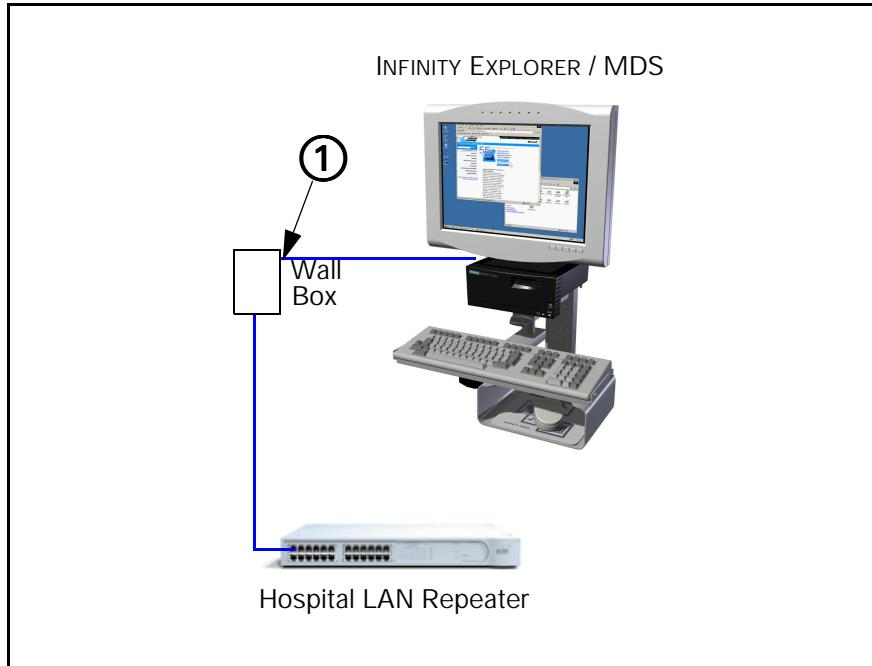

Figure 12-6 Hospital LAN Connection
Plug one end of Ethernet Patch Cable into Hospital LAN RJ45 connector (⑯ in Figure 12-1 on page 18) on rear of MDS, and then plug other end of cable into Hospital LAN RJ47 Wall Box Connector (① in Figure 12-6)